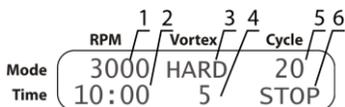

Figure 4. SMS-algorithm
- **SMS-algorithm.** Set the centrifugation speed (fig. 4/1) and time (fig. 4/2). Set the vortexing intensity (fig. 4/3) and time (fig. 4/4). Set the number of SMS-algorithm cycles (fig. 4/5).
5.4.5 After the set number of cycles is performed, the unit stops, display shows blinking indication STOP (fig. 4/6), accompanied by a sound signal. Press the **Run/Stop** key to stop the signal. Model **MSC-6000** unlocks the lid after the rotor stops. Open the lid and remove the tubes.